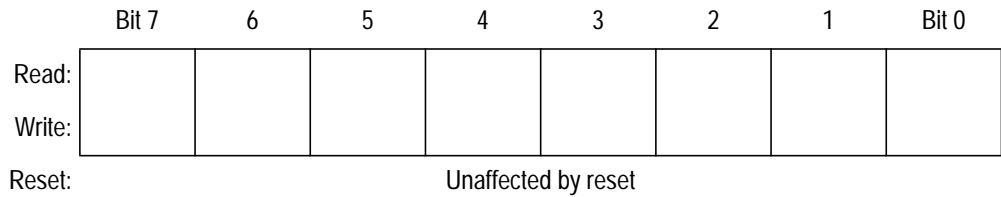

Figure 3-2. Accumulator (A)
The accumulator (A) shown in **Figure 3-2** is a general-purpose 8-bit register. The accumulator holds operands and results of arithmetic and non-arithmetic operations.